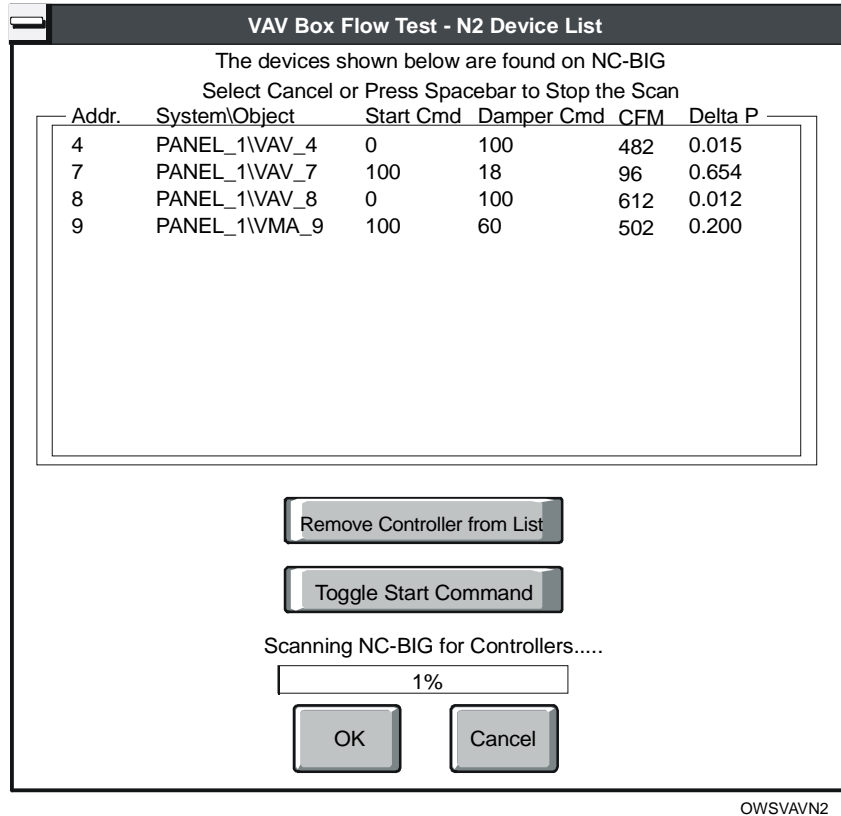

Figure 16-21: OWS - Multiple VAV Box Flow Test - N2 Device List Dialog Box
4. Select an NCU, then click OK or press Enter. HVAC PRO software searches the NCU and displays a list of all single duct pressure independent VAV boxes found (Figure 16-21).